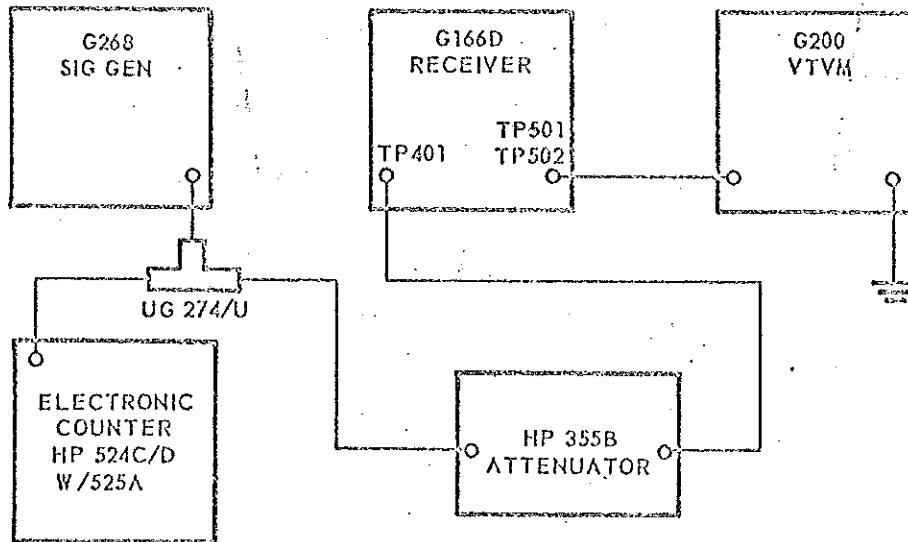

Figure 5-8
- d. Connect test equipment as shown in figure 5-8.
- c. Connect test equipment as shown in figure 5-8.